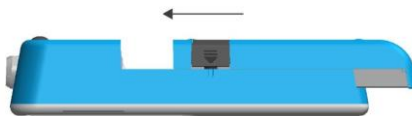

Figure 7: Slide battery into place.
- Slide the battery forward into the AURA™ Monitor until the locking mechanism is activated (Figure 7).